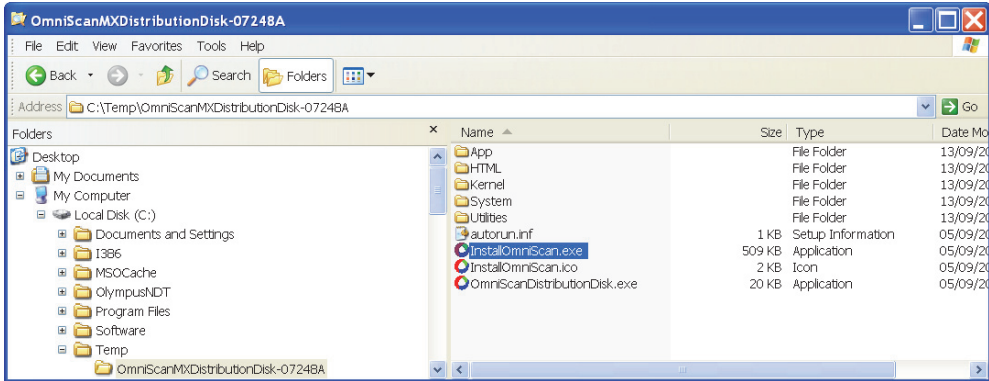

Figure 4-12 Double-clicking the InstallOmniScan.exe file
- ◆ Select the folder where you unzipped the OmniScan distribution disk file, and then double-click the **InstallOmniScan.exe** file (see Figure 4-12 on page 86).